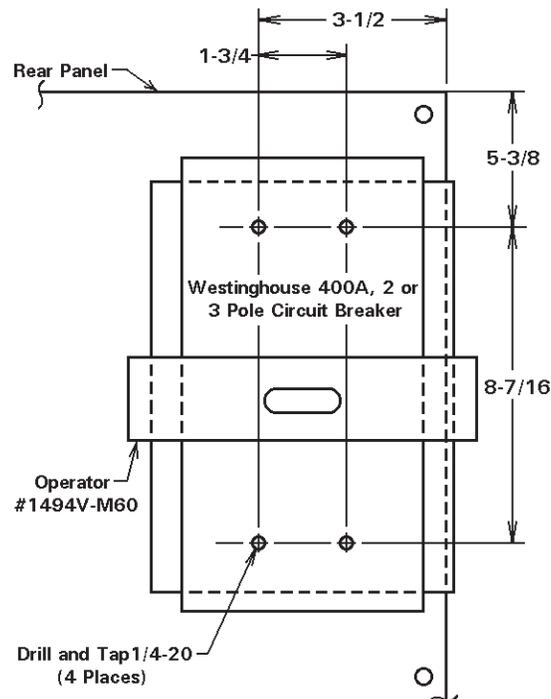

Figure 12
2. Drill and tap the Rear Panel as shown in Figure 12 (“L” Cabinet Rear Panel is already drilled).